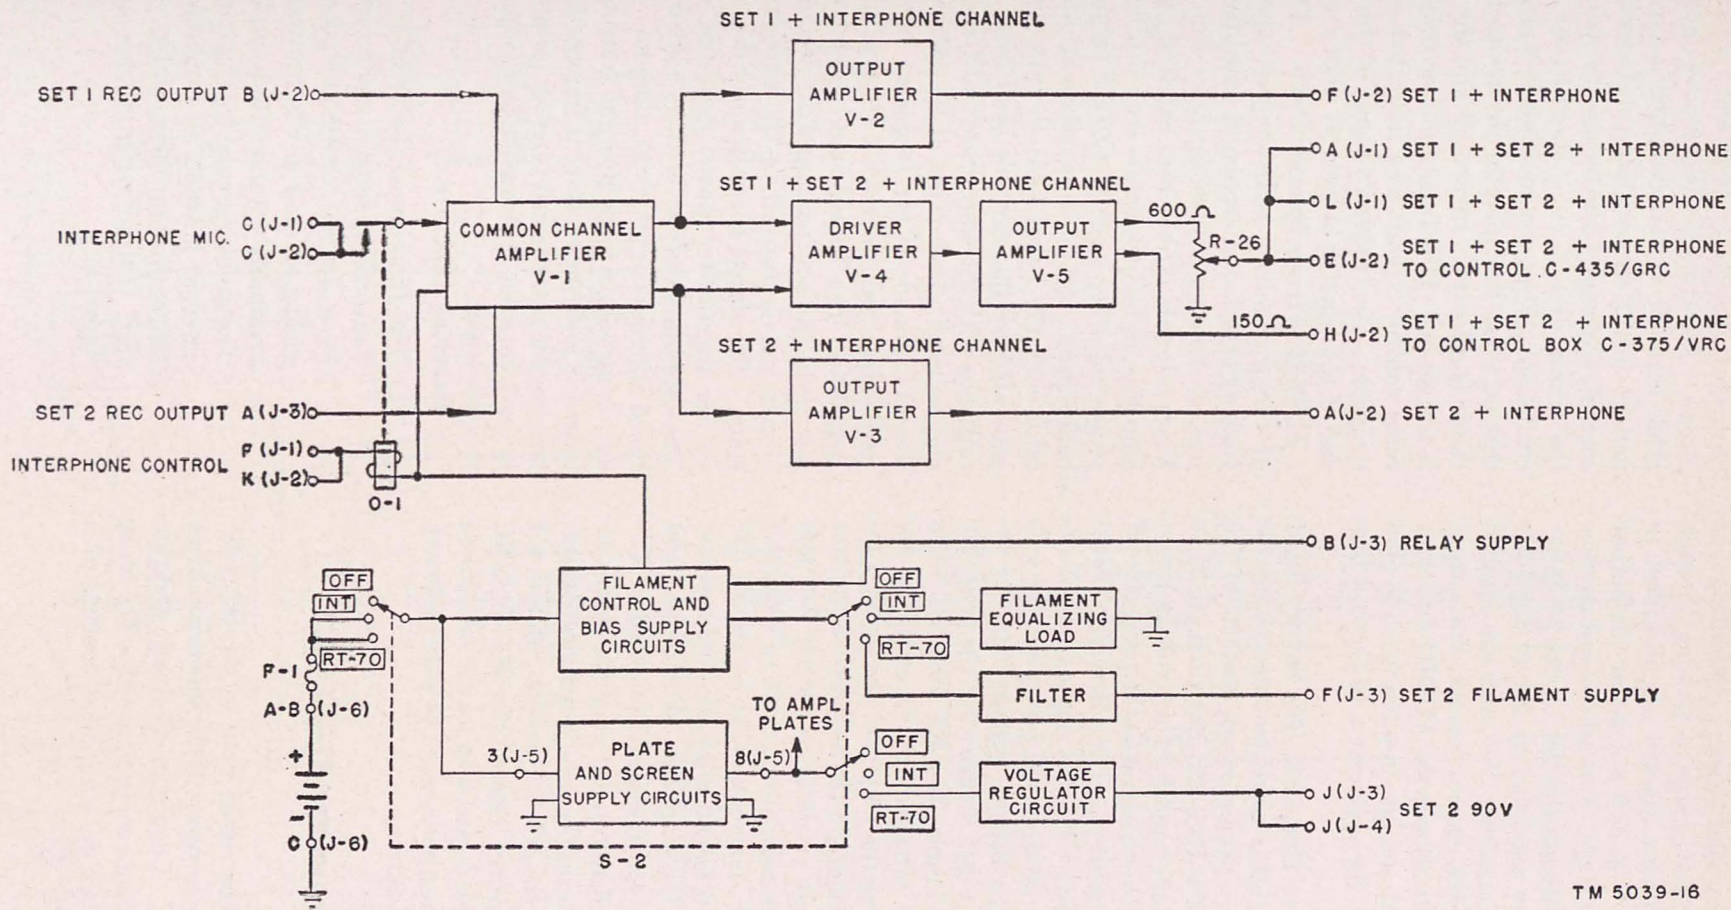

Figure 37. AF Amplifier AM-65/GRC, block diagram.
d. The received signals which are supplied to the interphone amplifier (J, 19) are amplified and fed to output receptacles D/J-1 and D/J-2 (J, 20). The signal path through the interphone amplifier may be traced on the block diagram (fig. 37 and par. 77).
The discussion of unit theory is limited to block diagram analyses of the major units. Although the maintenance information included in this manual is at an organizational level only, familiarity with the block diagrams of the units should be helpful in trouble shooting. A knowledge of which tubes are receiving tubes and which tubes are transmitting tubes, for example, will aid in the replacement of parts for which the operator has running spares. The block diagrams are shown in figures 37 and 38. Complete schematic diagrams for all units are also included (figs. 57 through 66) as additional information for maintenance personnel.
(fig. 37)
Figure 37 is a functional block diagram of AF amplifier AM-65/GRC. The diagram shows the signal and power supply circuits which are provided by the amplifier.